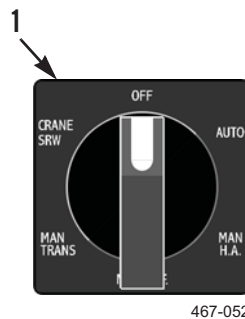

Figure 15. MODE Switch at OFF.
9. With engine at idling speed, set MODE switch (Figure 15, Item 1) to OFF (PLS: TM 9-2320-364-14&P, HEMTT: TM 9-2320-326-14&P).